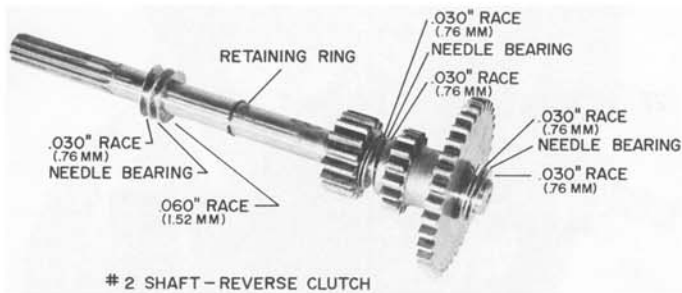

Figure 26
32. #2 shaft assembly removed. See fig 26.